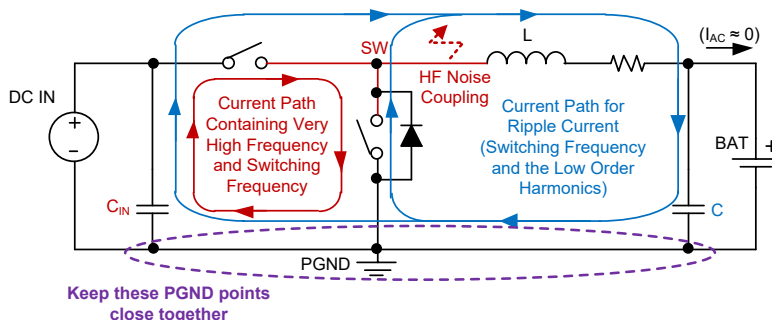

Figure 15. Graphical Representation of the Switching and Transient Current Loops, and Capacitive Noise Coupling from SW Node
1. The switching node (SW) creates very high frequency noises several times higher than f_{SW} (1.6MHz) due to sharp rise and fall times of the voltage and current in the switches. To reduce the ringing issues and noise generation, it is important to minimize impedance and loop area of the AC current paths. A graphical guideline for the current loops and their frequency content is provided in Figure 15.